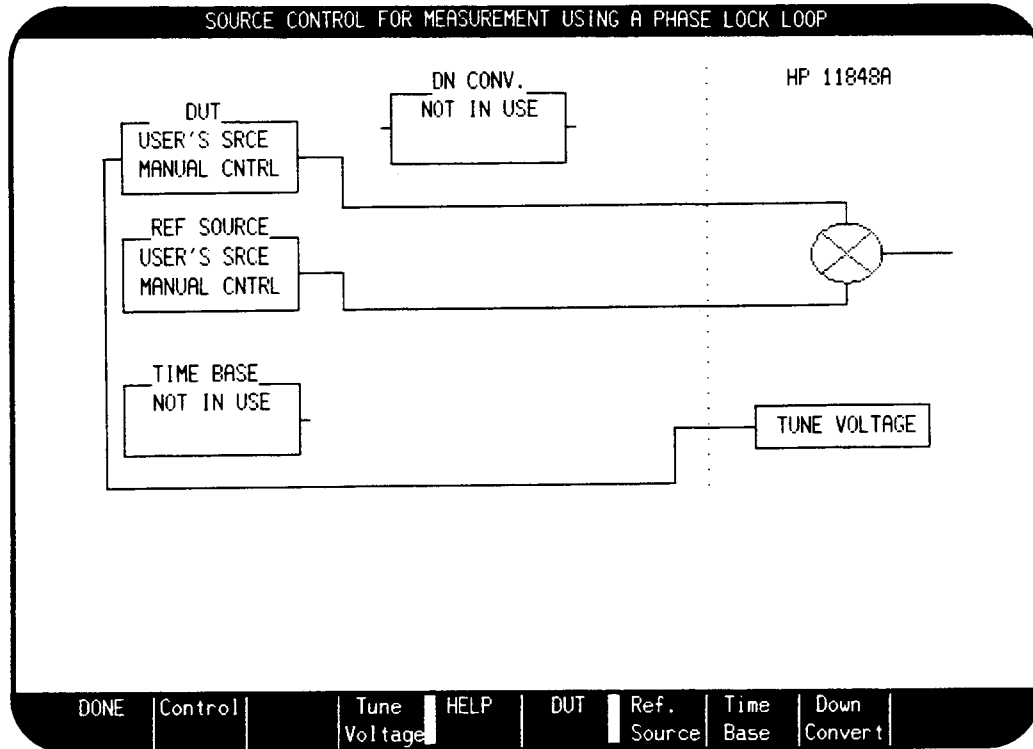

Figure 3-10. Source Control for Measurement Using a Phase Lock Loop Menu
- On the HP 3048A press the **Source Control** softkey to obtain the Source Control for Measurement Using a Phase Lock Loop menu. Set the various devices in the system as shown in figure 3-10. When done, press the **DONE** softkey.